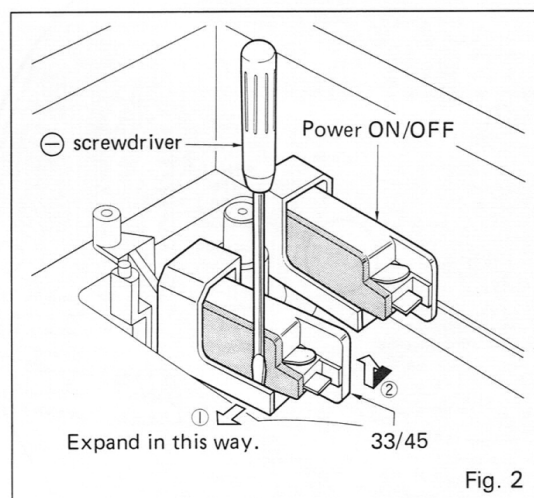

Fig. 2
- 2) Spread the micro switch holder with a \ominus driver as shown in Fig. 2, then remove the micro switch.